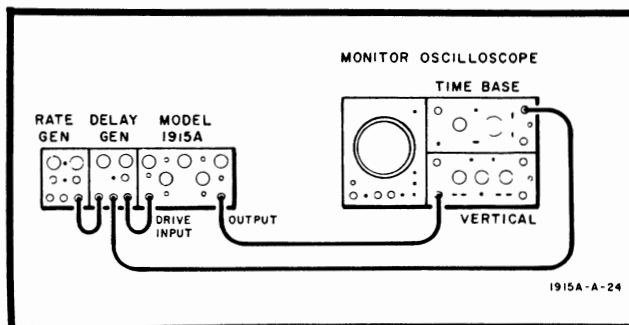

Figure 5-16. Adjustment Test Setup
- a. Connect equipment as shown in Figure 5-16.